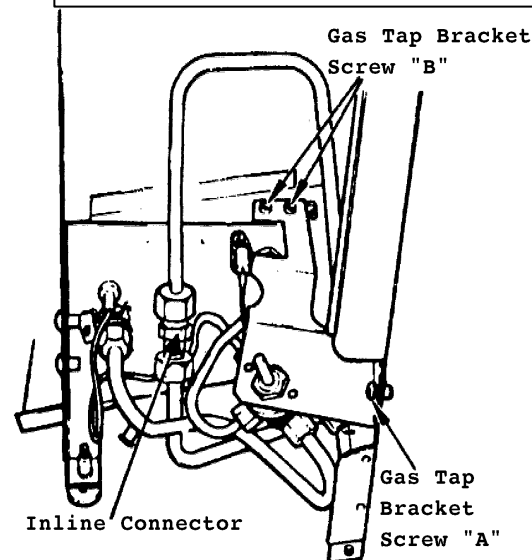

Fig. 20 Manifold View
- 16.9.4 Remove the gas tap bracket by unscrewing one screw, attaching it to the back panel and two screws attaching it to the bulkhead panel - see Fig.20 screws 'A' and 'B'
- 16.9.6 Disconnect the thermocouple and flue switch wires from the gas tap interrupter block (Fig. 20 a).
16.13.4 Disconnect the inlet pipe from the lower joint of the in line connector - see figure 20.
16.13.10 Remove the screw securing the gas tap bracket to the appliance back panel - see figure 20 screw "A".